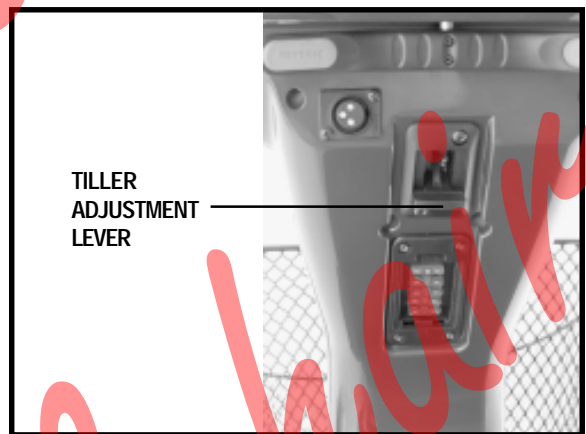

Figure 13. Tiller Adjustment
1. Lift the tiller adjustment lever. See figure 13.